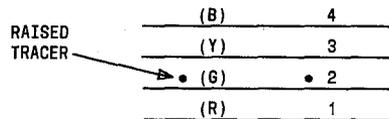

Fig. 1—Conductor Identification of B Station Wire
- (6) Always match the wire pairs when making a tap, splice, or extending a wire run to ensure correct polarity of conductors.
- (7) Identification of individual conductors may be determined by locating the raised tracer dot on the surface of the B station wire and counting the conductors as shown in Fig. 1.
- (8) Conventional station wiring colors [(BK), (Y), (G), (R)] assigned to the conductors in relation to the tracer are shown in Fig. 1. The associated numbers relate to the designations in the terminals, terminal base, etc.
- (5) Remove approximately 3/4 inch of outer jacket from the D station wire. Insulation from individual conductors need not be removed. Match each conductor with the 3 station wire for correct polarity (Fig. 1) and place in wire grooves in base of transition (Fig. 10).
- (6) Place cover and tighten screw until cover is seated to base of transition.